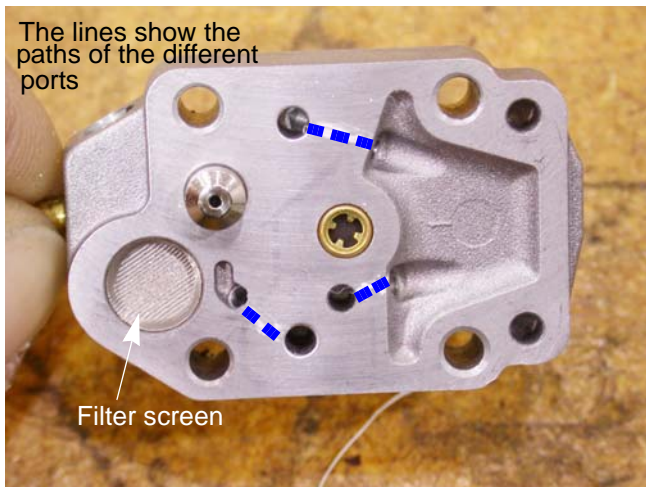

Figure 5.26
5. There are ports in the metering valve body. Inspect them for dirt and/or varnish. See Figure 5.26.